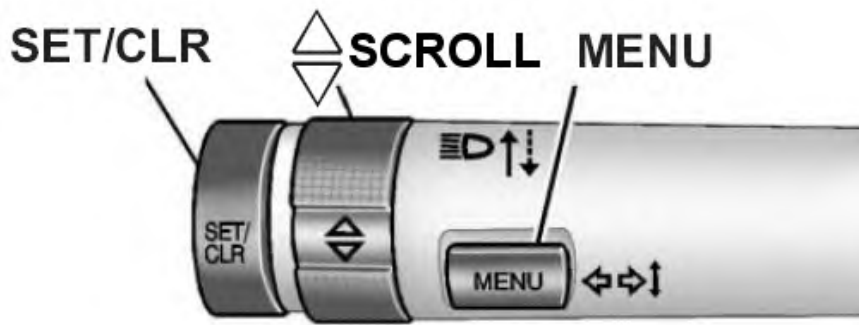

Fig. 8: Identifying DIC Controls (Turn Signal Lever)
4. Use the MENU button to select the VEHICLE INFORMATION MEN U in the Driver Information Center (DIC). See Fig. 8.